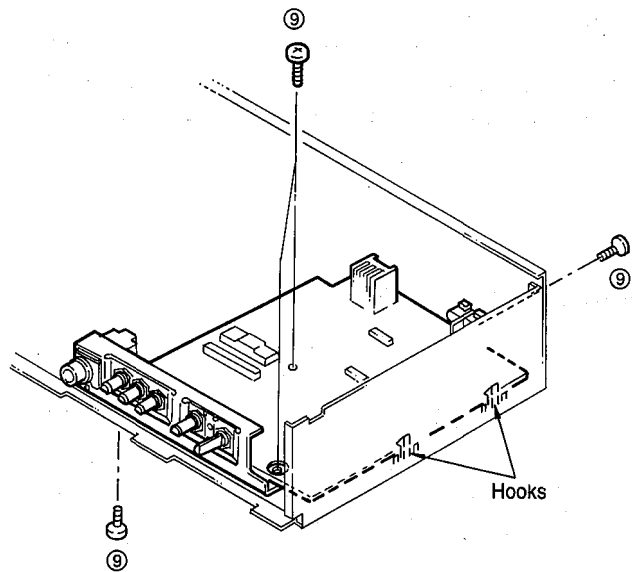

Fig. 9
a. Remove 4 screws (⑨) and detach 2 hooks in fig.9.